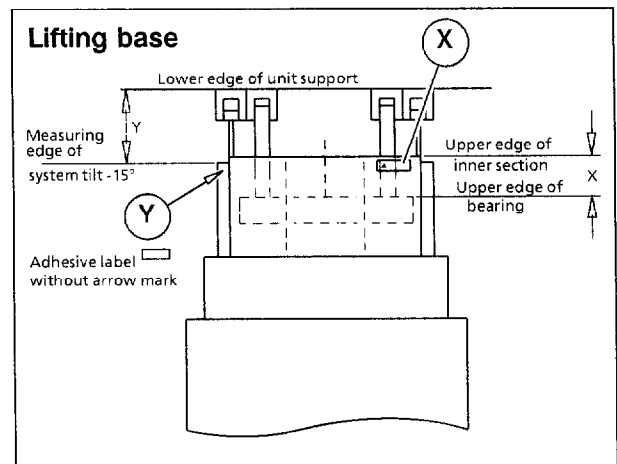

Fig. 3
- Carefully tilt up the unit in the Calibration mode until the position indicated on the label (2) is reached.
- Using a steel tape measure, determine the distance between the upper edge of the inner lifting base segment and the adjusted position in the lifting base at the position marked with a triangle (Fig. 3).
- Carefully tilt down the unit in the Calibration mode until the position indicated on the label (2) is reached.
- Using a steel tape measure, determine the distance between the upper edge of the front ball bearing guide rail and the surface of the unit support (Fig. 3).